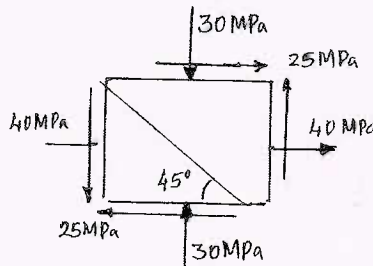

Fig. Q1 (c)
- c. A point in a structural member is subjected to plane stress as shown in Fig. Q1 (c). Determine the following :